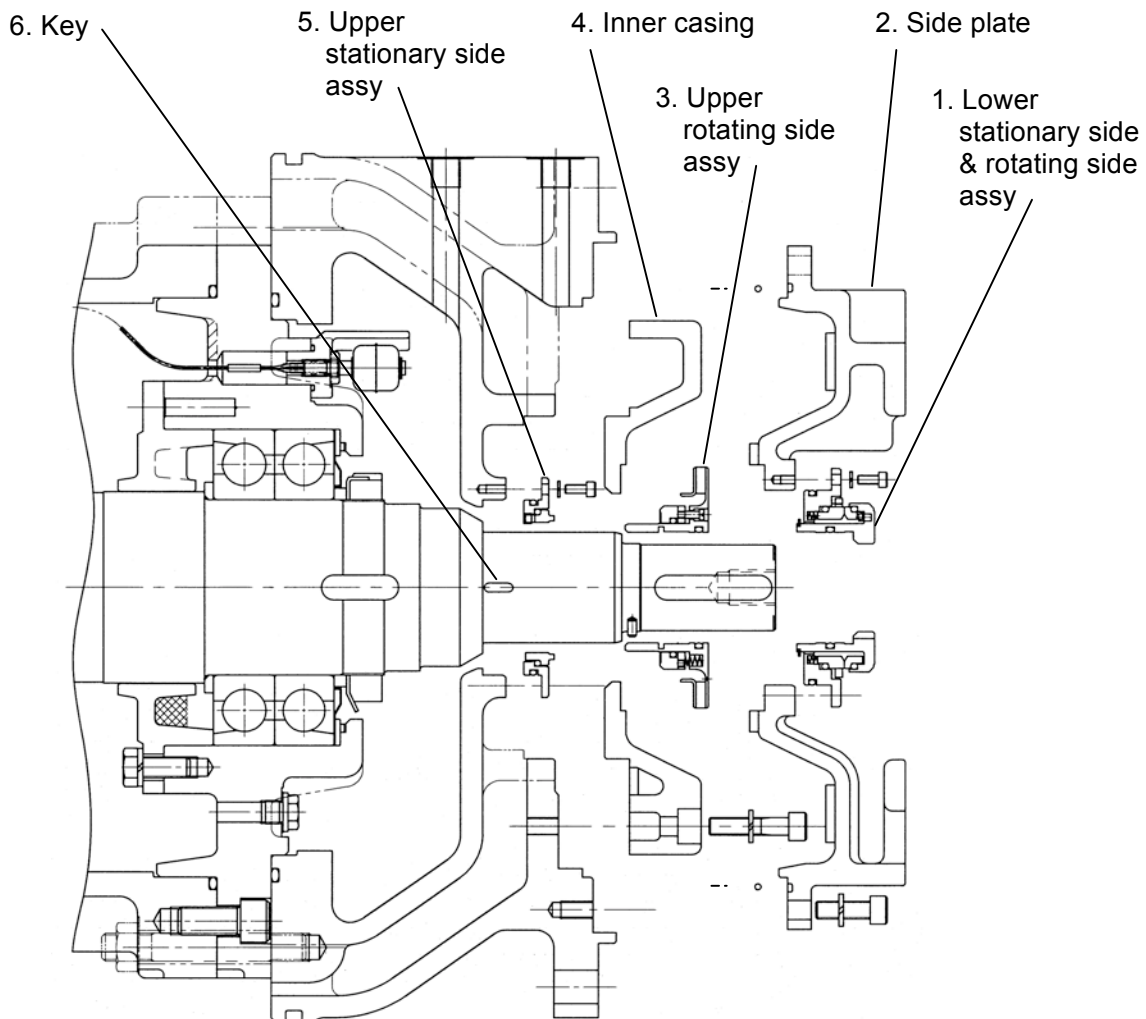

Fig. 24c
- (3) Mechanical seal replacement (Refer to Fig. 24c)